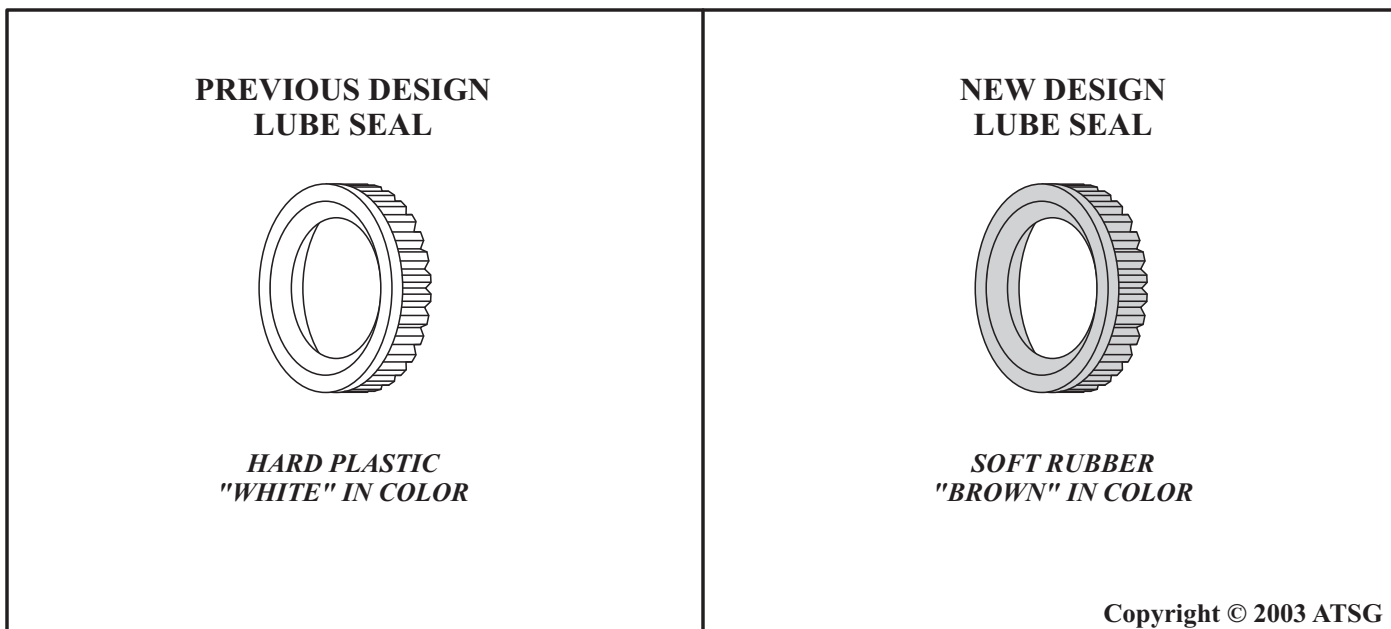

Figure 67
CHANGE: Beginning on January 28, (Julian Date 028) 1991, all 1991 model 700-R4 transmissions were built with new design output shafts that has a relocated lube hole, and a new input housing to output shaft seal, as shown in Figure 67 and 68.
- (2) **INPUT HOUSING LUBE SEAL** - Now manufactured out of a soft rubber, instead of the previous design hard plastic seal, as shown in Figure 67. The new soft rubber lube seal has much improved sealing capabilities.